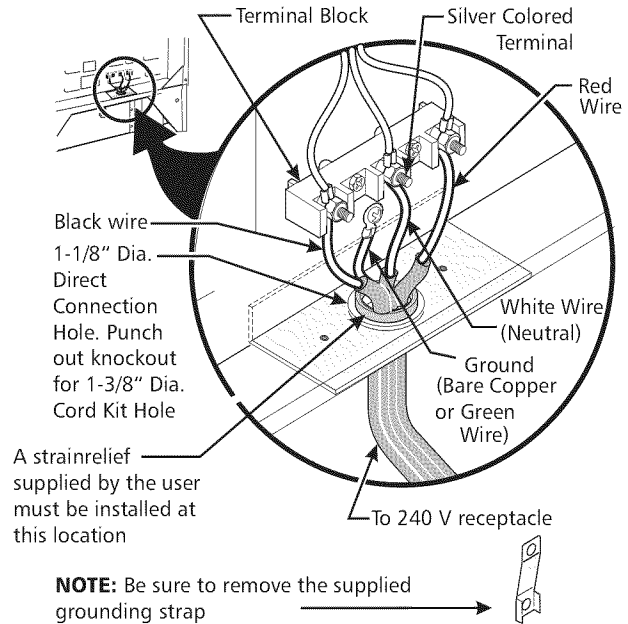

Figure 4
- Connect the ground wire (green) of the copper power supply cord to the frame of the appliance with the ground screw, using the hole in the frame where the ground strap was removed (see Figure 4).
- Replace the 3 nuts on the terminal block (see Figure 4).
If the appliance is connected directly to the circuit breaker, fuse box or junction box, use flexible, armored or nonmetallic sheathed copper cable (with grounding wire). Supply a U.L. listed strain-relief at each end of the cable. At the appliance end, the cable goes through the Direct Connection Hole (see Figure 4) on the Cord Mounting Plate. Wire sizes (**copper wire only**) and connections must conform to the rating of the appliance.